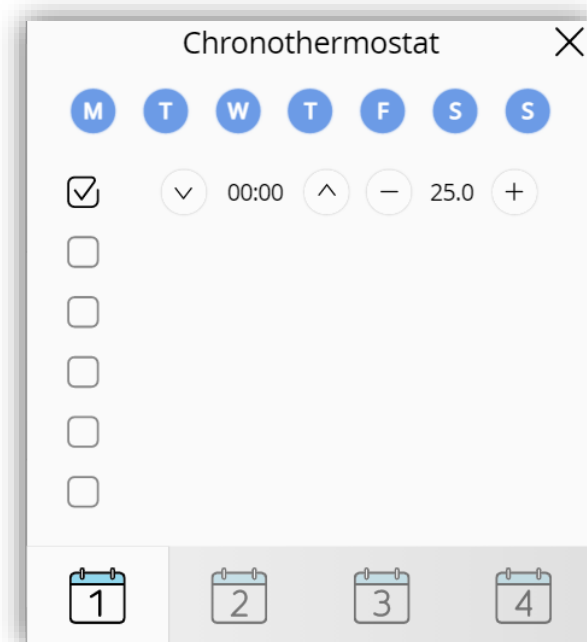

Figure 109. Chronothermostat panel
- **Minimum Setpoint Value** [-99 ... 18 ... 199][°C]: minimum setpoint value that the user can be set on the chronothermostat panel (see Figure 109).
- **Maximum Setpoint Value** [-99 ... 30 ... 199][°C]: maximum setpoint value that the user can be set on the chronothermostat panel (see Figure 109).